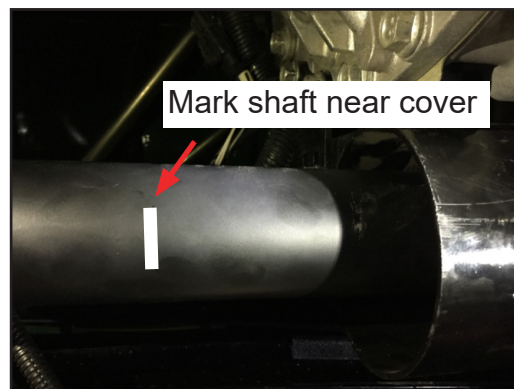

Figure 12
13. Use a machinist's marker to mark a location on the shaft near the cover (location not critical) (Figure 12).